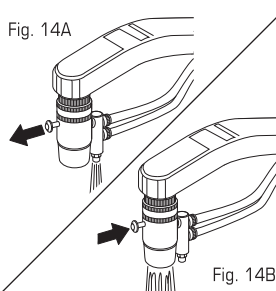

Fig. 14B
- Pin **pushed in** - Untreated water (Fig. 14B).